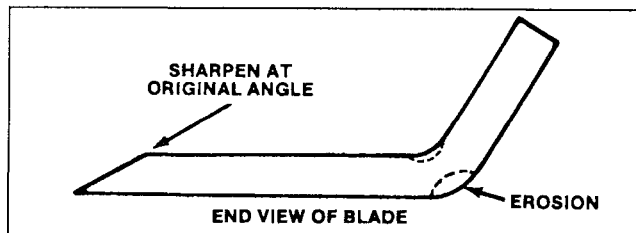

Figure 17
Check cutter blade every time rider is tipped on end. If bolt holding blade is loose, tighten it to 45-60 ft-lb. If blade or sail (Fig. 17) at end of blade is worn, eroded, or cracked, replace the blade. Replace the blade if it is bent or out-of-balance. Always use genuine TORO replacement blade to ensure safety and best performance. **NEVER USE WILL-FIT REPLACEMENT BLADE.**
7. Using a file, sharpen cutting edge at both ends of the blade (Fig. 17).
7. Since rider is tipped on end, check condition of blade (Fig. 17).